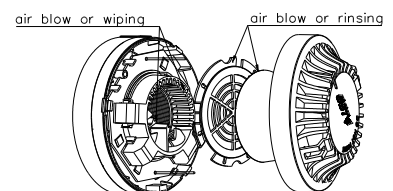

Fig. 6
- Before cleaning, notify the proper authorities that the system is undergoing maintenance and will temporarily be out of service. Disable the zone or system undergoing maintenance to avoid unwanted alarms. Steps of cleaning the chamber (Fig. 6):